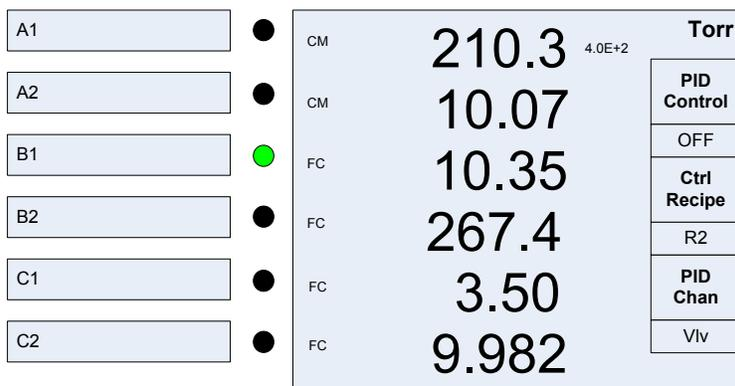

Figure 6-27 Display with the Dialog Box for PID Control using a Valve
The activation of a PID dynamic valve control is identical to activating a PID control using single MFC as described in Section §6.7.3.1.2. The only exception is that **Vlv** needs to be selected for the PID Ch. See Figure 6-27. Once a proper recipe is selected, PID pressure control is activated by changing the PID Control parameter from OFF to ON.
- Press the  to display the PID Control dialog box as shown in Figure 6-27;
- Switch the PID Control parameter from ON to OFF as shown in Figure 6-27. Once the PID control is turned OFF, the valve position will be changed to the Preset set point as defined in the recipe (refer to Figure 6-14).